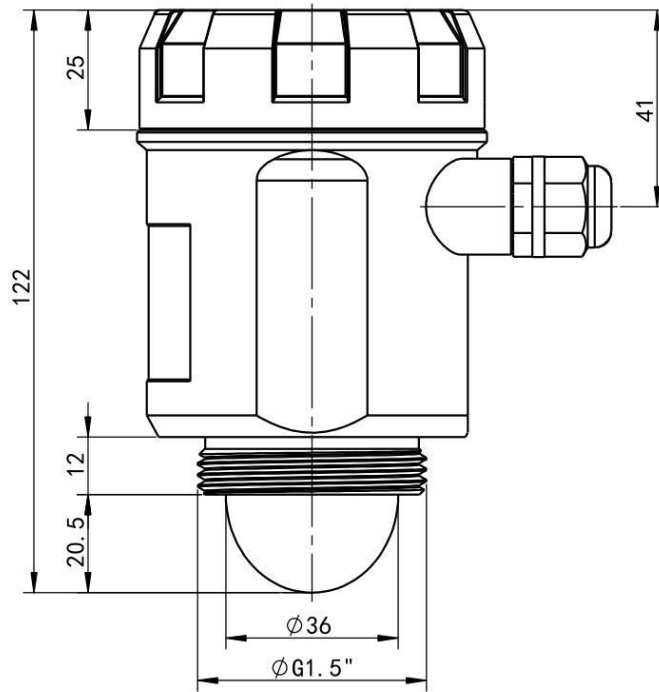

Figure 1 Structural Diagram of Radar Appearance
- The external structure of the radar is shown in Figure 1.